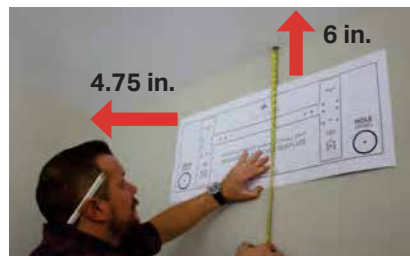

FIG 1.1
- On an exterior wall, at least 6 in. / 15.2 cm from the ceiling and 4.75 in. / 12 cm inches from adjacent wall (refer to figure 1.1)